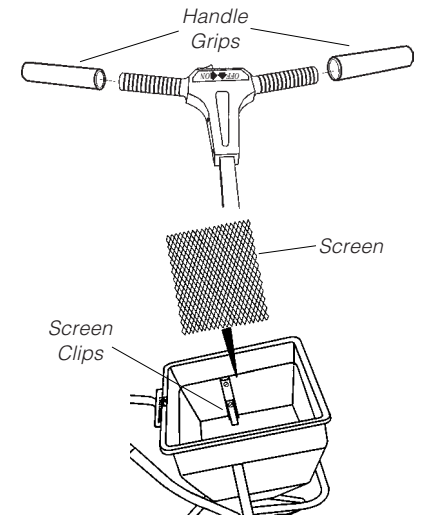

Figure 7
- Install handle grips onto the handle. It is not necessary to use lubricants to do so. Insert screen into hopper by sliding it under the screen clips. See Figure 7.